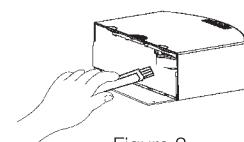

Figure 2
2. Then clean it with cleaning brush (See Figure 2)